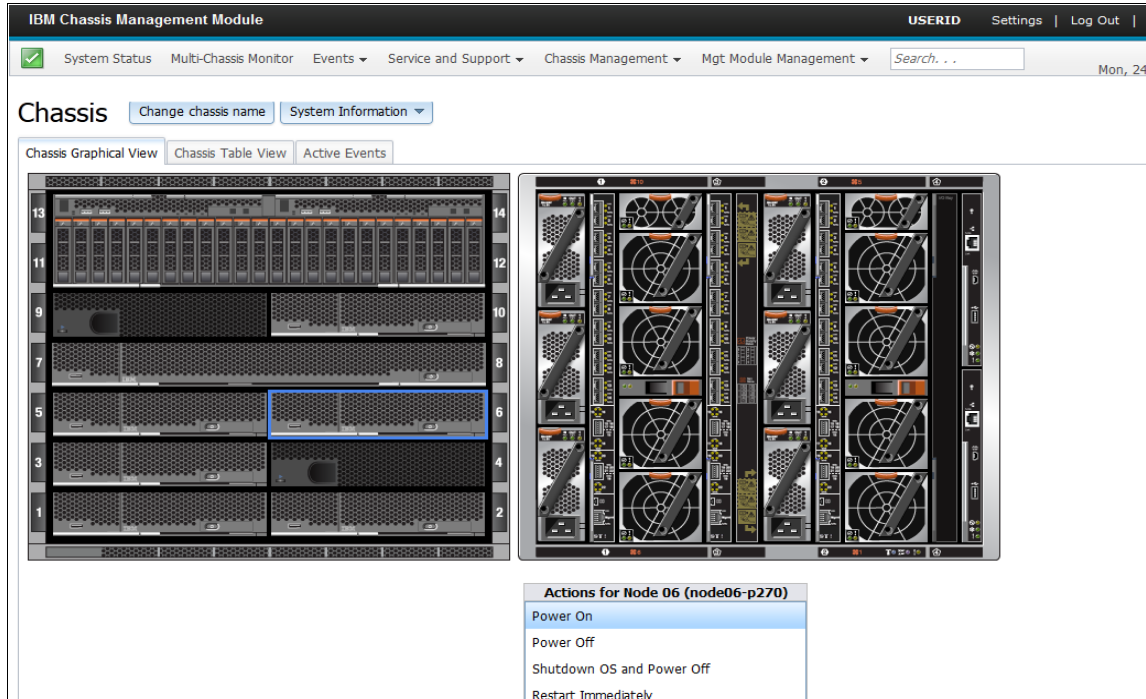

Figure 7-134 CMM System Status compute node actions
1. On the CMM, a Power compute node can be powered up from the System Status window by clicking the wanted node and then clicking **Power On** from the Actions menu, as shown in Figure 7-134.